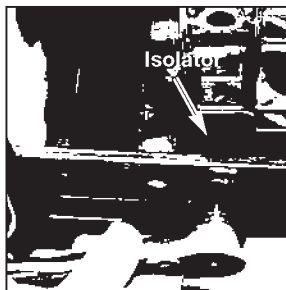

Figure 5
**NOTE:** If the unit is equipped with an isolator on the bottom left engine support as shown in Figure 5, assemble as follows.
- c. Place screw (8) into second hole and secure with locknut (7).